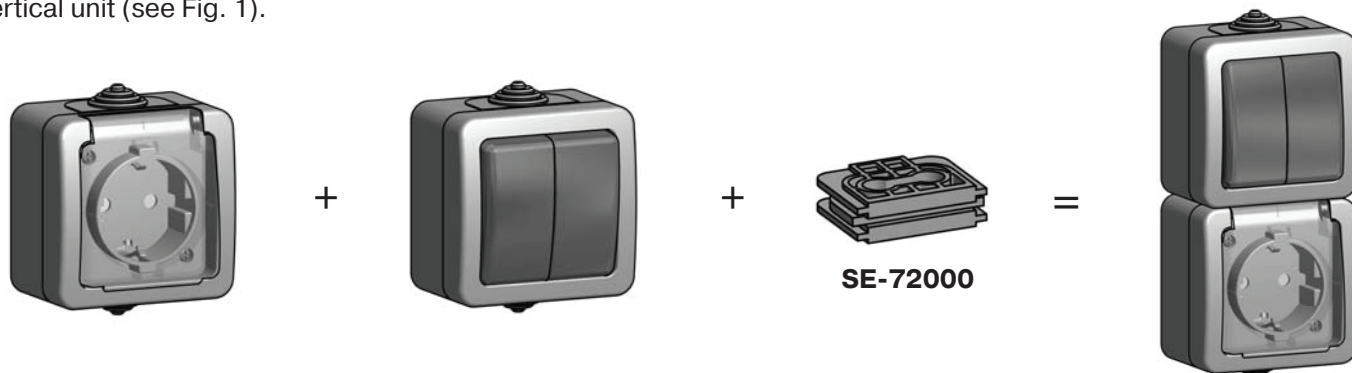

Fig. 1. Socket + Switch + SE-72000 connection element = Two-gang unit: socket + switch
1. Use **SE-72000** two-gang case to assemble **Storm** series sockets and/or switches (in different combinations) as a vertical unit (see Fig. 1).